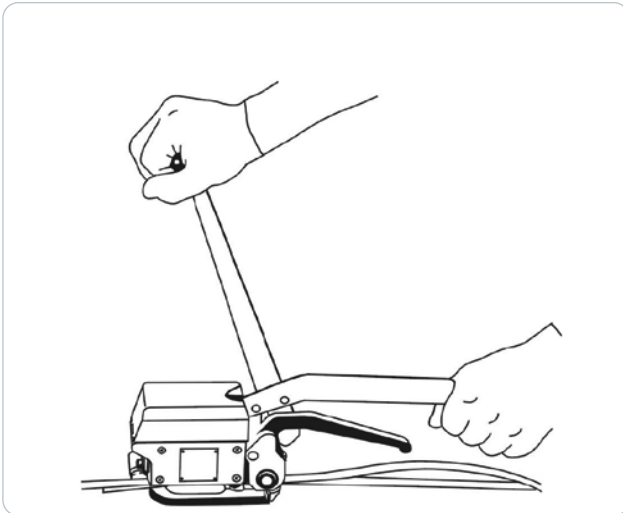

Figure 3
5. Hold the device by the punching lever with your left hand. Move the right tension lever back and forth until the desired tension is reached (Figure 3).